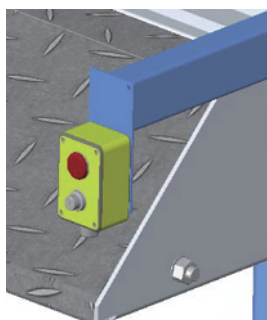

Fig. 1
3. To Raise Lift: Turn the key switch clockwise. Release switch at desired height, Fig. 1. ONLY OPERATE ONE LIFT AT A TIME.